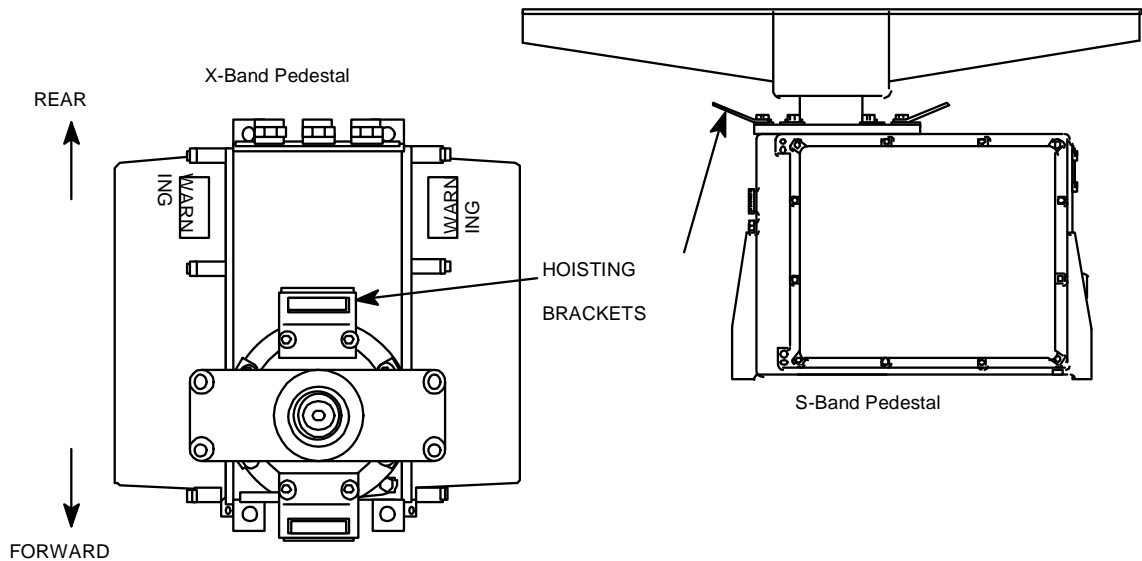

Figure: 2-6 NSC MTR Up/Pedestal Hoisting Brackets
- (1) Rotate the antenna so that the face of the array faces to the rear of the NSC MTR Up/Pedestal. Maintain the antenna in this position while hoisting.
- (2) Carefully hoist by the hoisting brackets, see Figure: 2-6 unit is in position above the pre-installed mounting plate. Align mounting holes in NSC MTR Up/Pedestal with those on the mounting plate and carefully lower unit.
- (3) Carefully lower NSC MTR Up/Pedestal to allow placement of four bolts through the feet and the mounting plate. Keep tension on the hoist, allowing for customer supplied isolation shim placement.